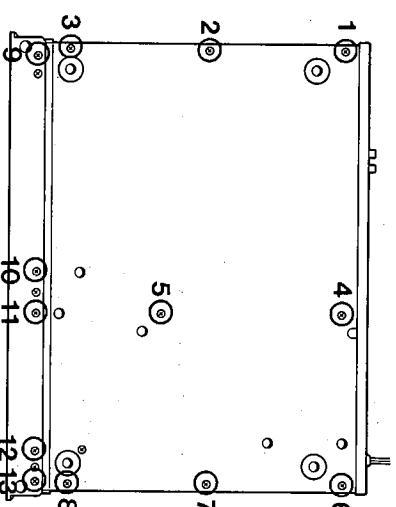
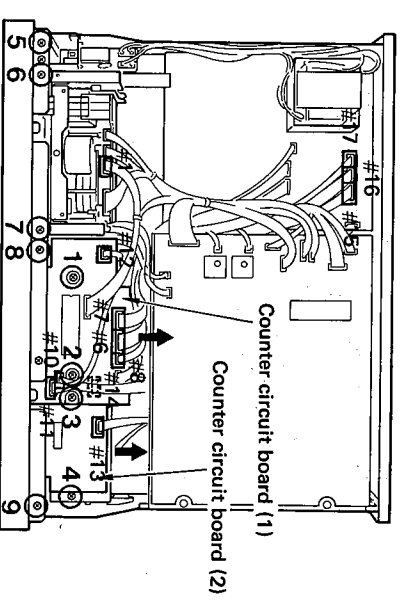

Fig. 2
Fig. 3
Remove screws ① through ⑧ in fig. 2 and then remove the bottom cover.
c. Remove screws ① and ② in fig. 3 and pull the counter circuit board (1) backward gently (connected to the front panel by connectors.)
d. Remove screws ③ and ④ in fig. 3 and pull the counter circuit board (2) backward gently (connected to the front panel as well as counter circuit board (1).)
f. Remove screws ⑨ through ⑬ (binding screws only) in fig. 2 and screws ⑤ through ⑧ (binding screws only) in fig. 3, and then pull the front panel forward gently.